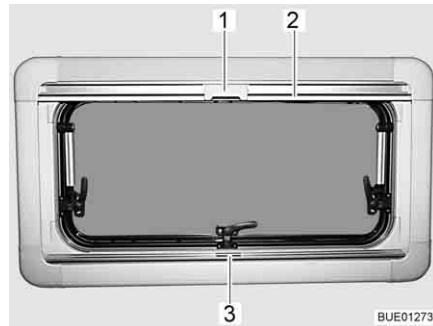

Fig. 73 Hinged window
Closing: ■ Grip the Roman shade in the centre of the holding bar (Fig. 73,3), pull it from the bottom to the top and then release it at the desired height. The Roman shade will stay at this height.
Closing: ■ Pull the insect screen down using the holding bar (Fig. 73,2), until it touches the holding bar of the Roman shade (Fig. 73,3).
■ Clip the catch (Fig. 73,1) on the insect screen into the handle of the Roman shade.
Opening: ■ Push the catch (Fig. 73,1) on the insect screen inwards.
■ Move the insect screen back slowly on the holding bar (Fig. 73,2).